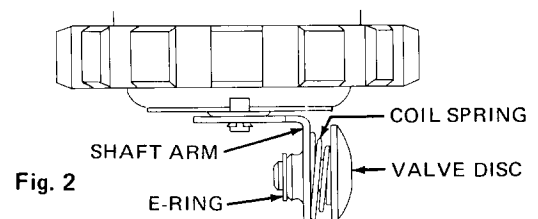

Fig. 2
1. Using a small screwdriver, pry off E-Ring. See Fig. 2. Discard old valve disc, E-Ring, and coil spring.
2. Position new coil spring over the stud of the valve disc, being sure that small end of coil spring fits against the carbon disc as shown in Fig. 2. Insert stud of valve disc through hole in the shaft arm and secure with new E-Ring.